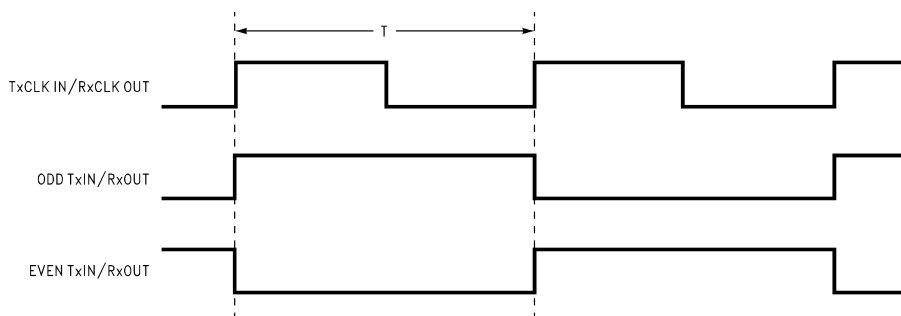

Figure 2. "Worst Case" Test Pattern
- C. Figure 2 and Figure 3 show a falling edge data strobe (TxCLK IN/RxCLK OUT).